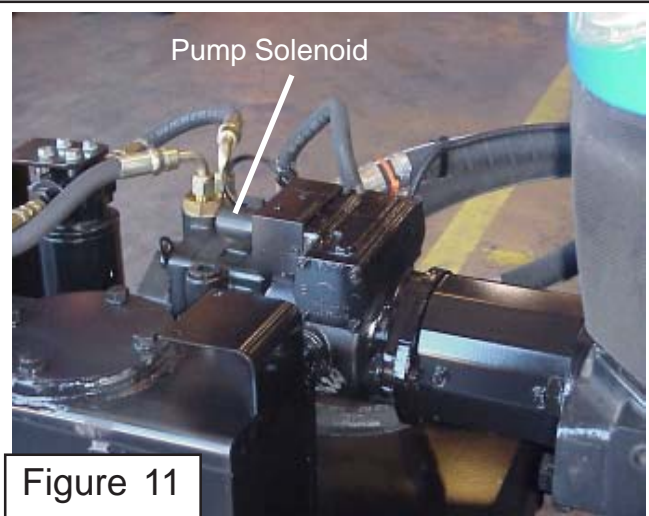

Figure 11
7. Connect Wire Harness to the Pump Solenoid. The wire harness has a plug that will connect to the pump solenoid at the pump on front of the tractor (See Figure 11). after wire harness has been connected use plastic ties to tie the wire harness to the hoses running along side the right side of tractor. Tie wires so they will not be pinched or pulled.